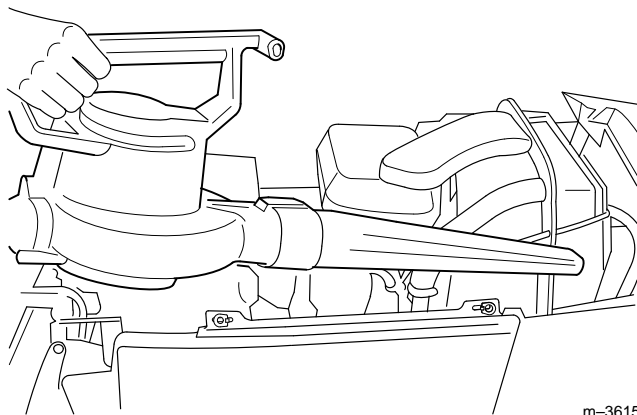

**Figure 8**
3. The radiator screen (Fig. 8) is located between the radiator and the dash in the tractor. To remove it, pull it up from its retention slot. Wipe or wash off all accumulated debris from the screen, then reinstall it.